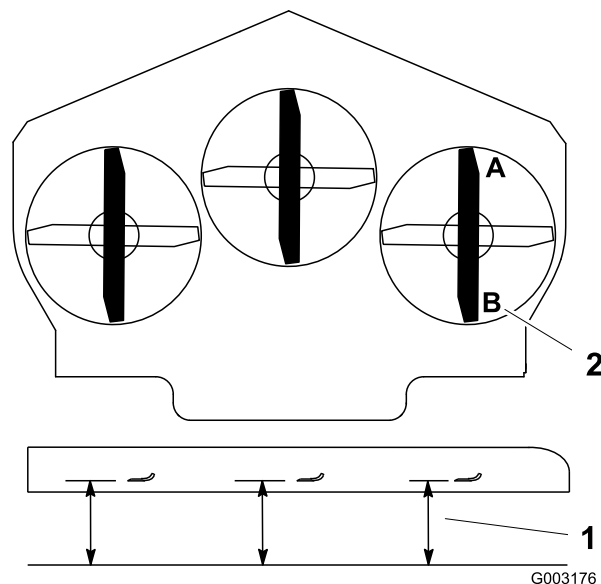

Figure 77
1. Position the right blade front-to-rear (Figure 77).
2. Measure the right blade at the **A** location, from a level surface to the cutting edge of the blade tip (Figure 77).
4. Measure the right blade at the **B** location, from a level surface to the cutting edge of the blade tip (Figure 77).
6. The mower blade should be 1/4 to 3/8 inch (6 to 10 mm) lower at position **A** than at position **B** (Figure 77). If it is not correct, proceed to the following steps.